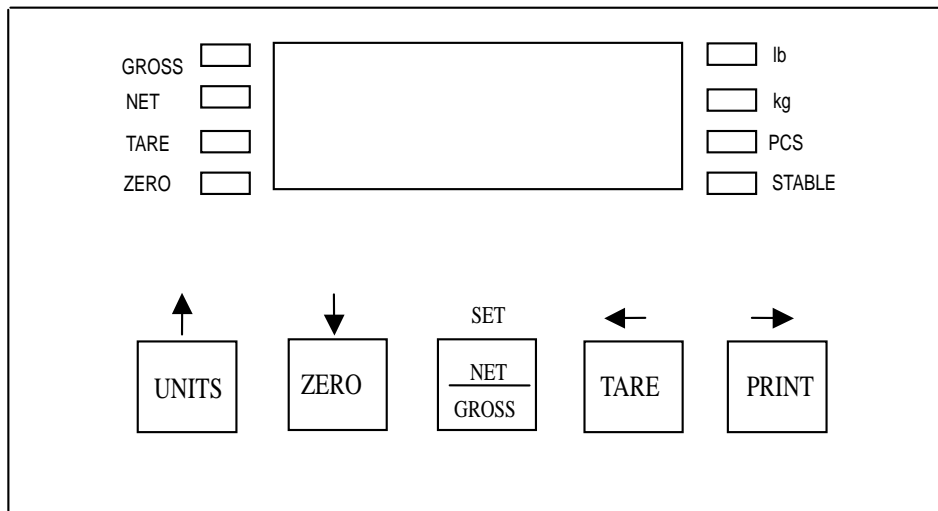
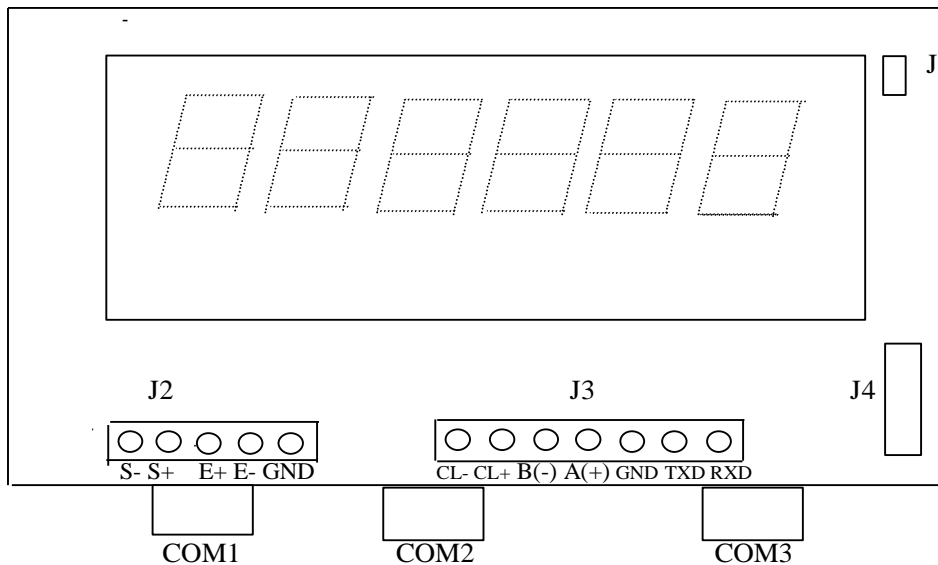

Fig. 1
Fig. 2
2.1 Front panel see **Fig. 1**, connectors see **Fig. 2**.